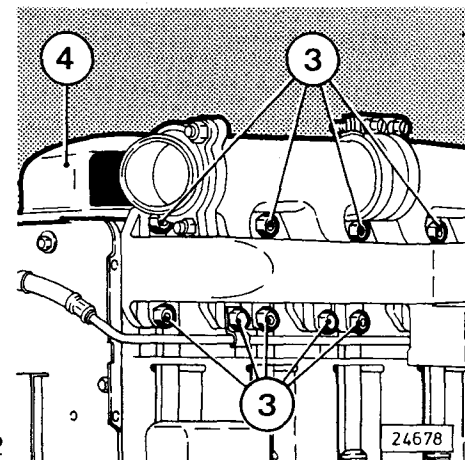

Fig. 32
- **Retighten bolts securing air intake and exhaust manifolds** to the cylinder heads (item 3, Fig. 32). See page 123.
- **Check valve clearance*** (item 4, Fig. 32), readjusting if necessary. See pages 116/117.